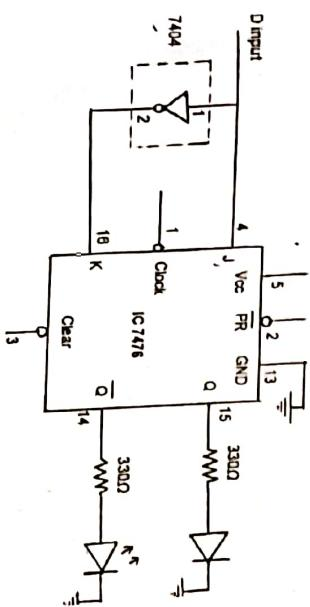

Figure 12.3 D FF using 7476
- Make the connections as shown in figure 12.3 and 12.4